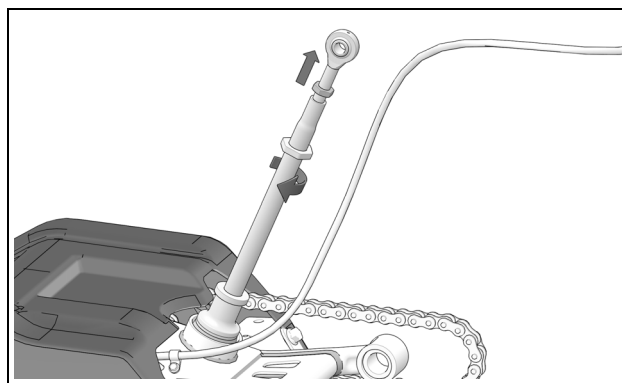

Figure 6
- Loosen the rod end's jam nut (1). Adjust the length of rod end by turning the anti-rotation arm (2) using a 30 mm wrench. See Figure 6.